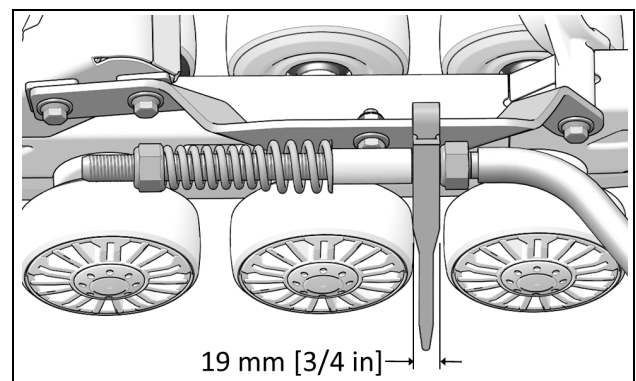

Figure 14
- IMPORTANT:** Double-check 19 mm minimum distance between nut and stabilizing arm guide. Re-adjust as needed. See Figure 14.